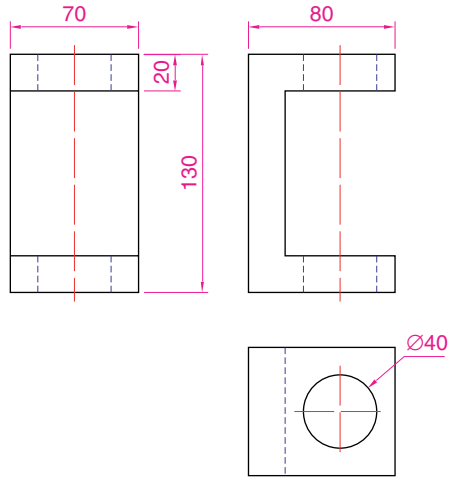
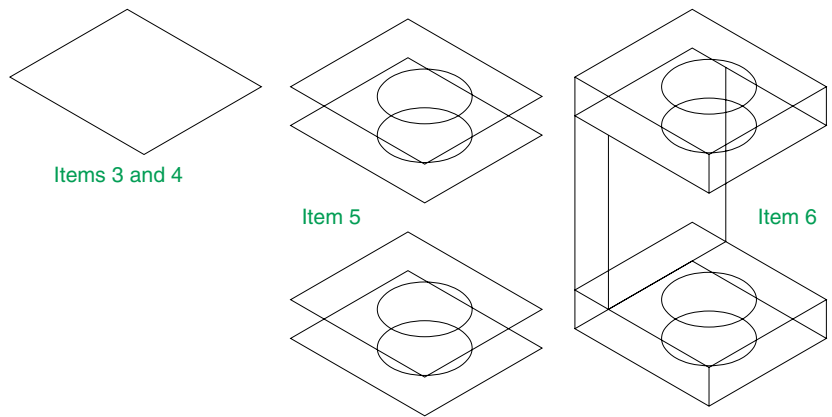

Fig. 7.18 First example – isometric drawing – the model
Fig. 7.19 First example – isometric drawing – items 3, 4, 5 and 6
1. Work to the shapes and sizes given in the orthographic projection in Fig. 7.18. Set Snap on (press the **F9** function key) and Grid on (**F7**).
3. With **Line**, construct the outline of the top of the model (Fig. 7.19), working to the dimensions given in Fig. 7.18.
4. Call **Ellipse** tool and set to isocircle, and add the isocircle of radius 20 centred in its correct position in the outline of the top (Fig. 7.19).
5. Set the isoplane to Isoplane Right and, with the **Copy** tool, copy the top with its ellipse vertically downwards three times as shown in Fig. 7.19.
6. Add lines as shown in Fig. 7.19.